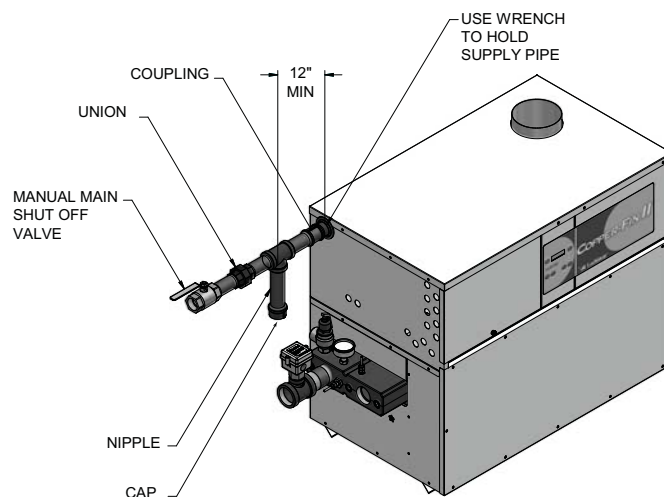

Figure 3-1_Gas Line Connection
- Install a sediment trap in the supply line to the unit's gas inlet (see FIG. 3-1).